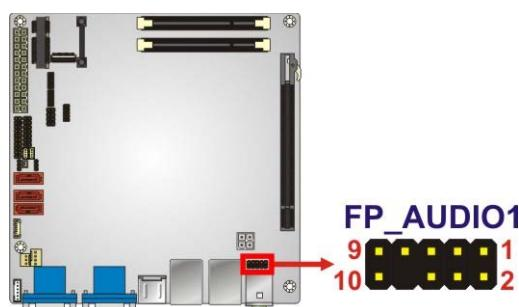

Figure 3-4: Audio Connector Location
**CN Location:** See Figure 3-4